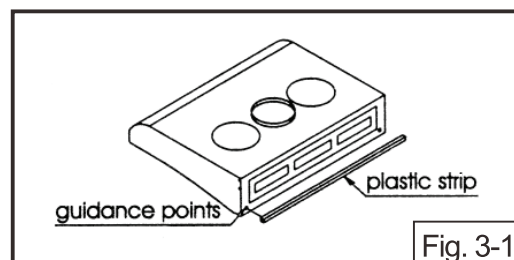

Fig. 3-1
- A. Take the plastic strip out from the accessory bag, tear off the tape. (Fig. 3-1)
- B. According to the guidance points at the back of the range hood (one at each side) stick the plastic strip onto the range hood. Press the plastic strip slightly to ensure that it is firmly stuck. (Fig. 3-1)